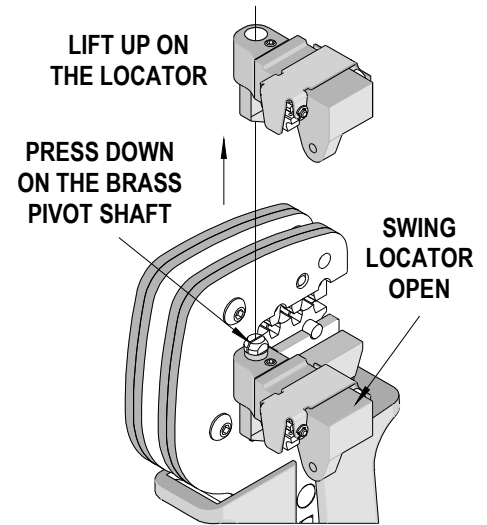

Figure 5
3. Firmly press down on the brass pivot shaft with your thumb, while pulling the locator up. Slip the locator off the top of the brass pivot shaft. See Figure 5.